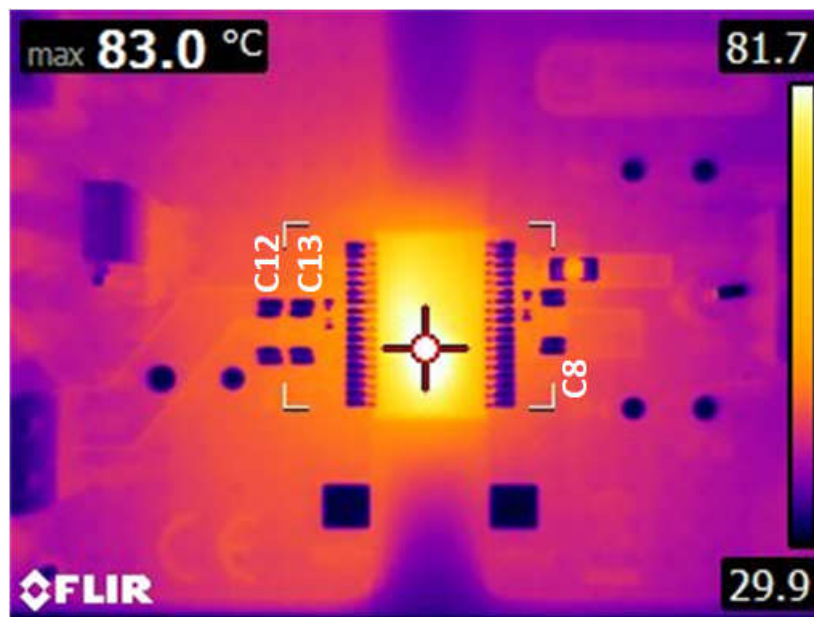

图 12-25. Thermal Image
- f. As seen in 图 12-25, there is a point of diminishing return, regarding the number of vias and size of the thermal via array. For 1.5-W of output power, heat transfer is shown to quickly diminish just beyond C12 and C8. The distance from the inner pad line of U1 to C12 is 320 mils.